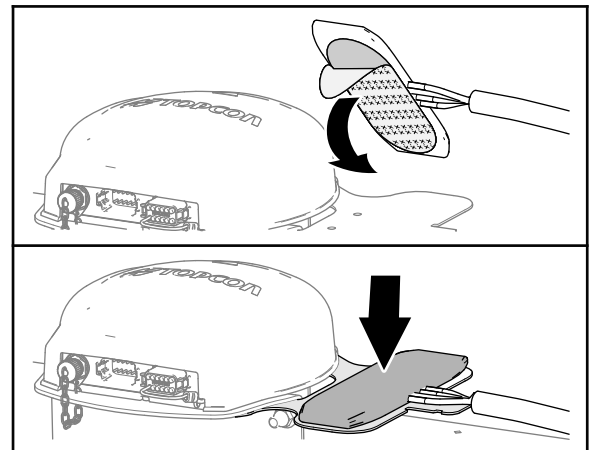

Figure 157
- Remove the backing from the double sided adhesive liner at the bottom of the modem antenna (Figure 157).
- Adhere the modem antenna to the top of the modem-antenna bracket as shown in Figure 157.